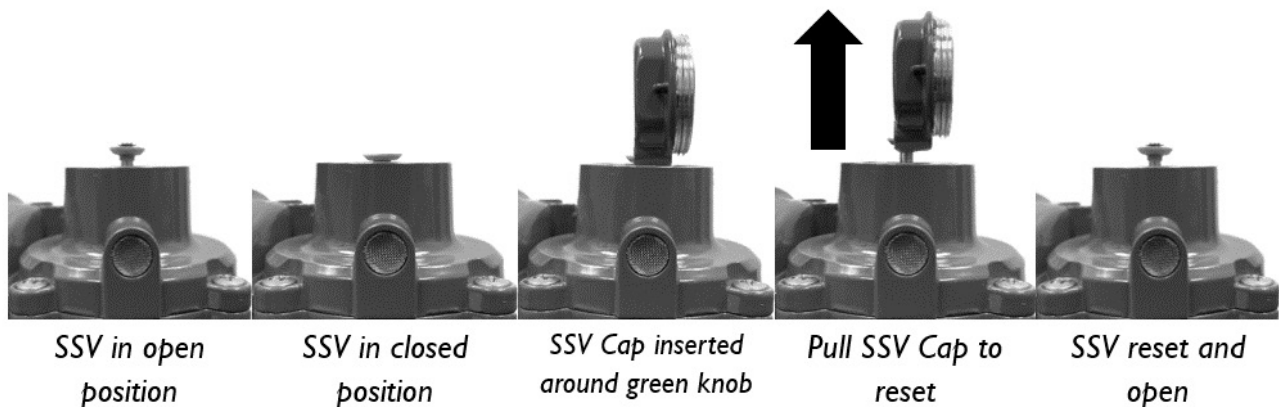

Figure 5: SSV Reset Procedure
START UP PROCEDURE: Refer to Figures 5 & 6
3. If the SSV stem (807) is in the open position (See Figure 5) proceed to step 7. If the SSV stem is in the closed position, proceed to step 4.
4. Unscrew the cap of the SSV (23) and slide the cap around the green knob (821) on the end of the stem (807) (Figure 5). A needle nose pliers can also be used in place of the cap.
6. Once outlet pressure begins to increase, hold the stem in that position. When outlet pressure is below the OPSO set point and above the UPSO set point (if equipped), the reset can occur. Pull the stem so the SSV is wide open and the stem should remain in that open position when you remove the cap from the green knob, as shown in Figure 5. Note that the SSV will not reset if outlet pressure is above OPSO set point or below the UPSO set point (if equipped).
8. Replace the cap (23) and tighten to avoid any moisture ingress into the safety device.
3. If the SSV activates during this process and pressure remains on the upstream side of the regulator, use the cap (23) or a pair of needle nose pliers to hold the SSV in the open position until all pressure is removed from the system. See Figure 5 for more information.